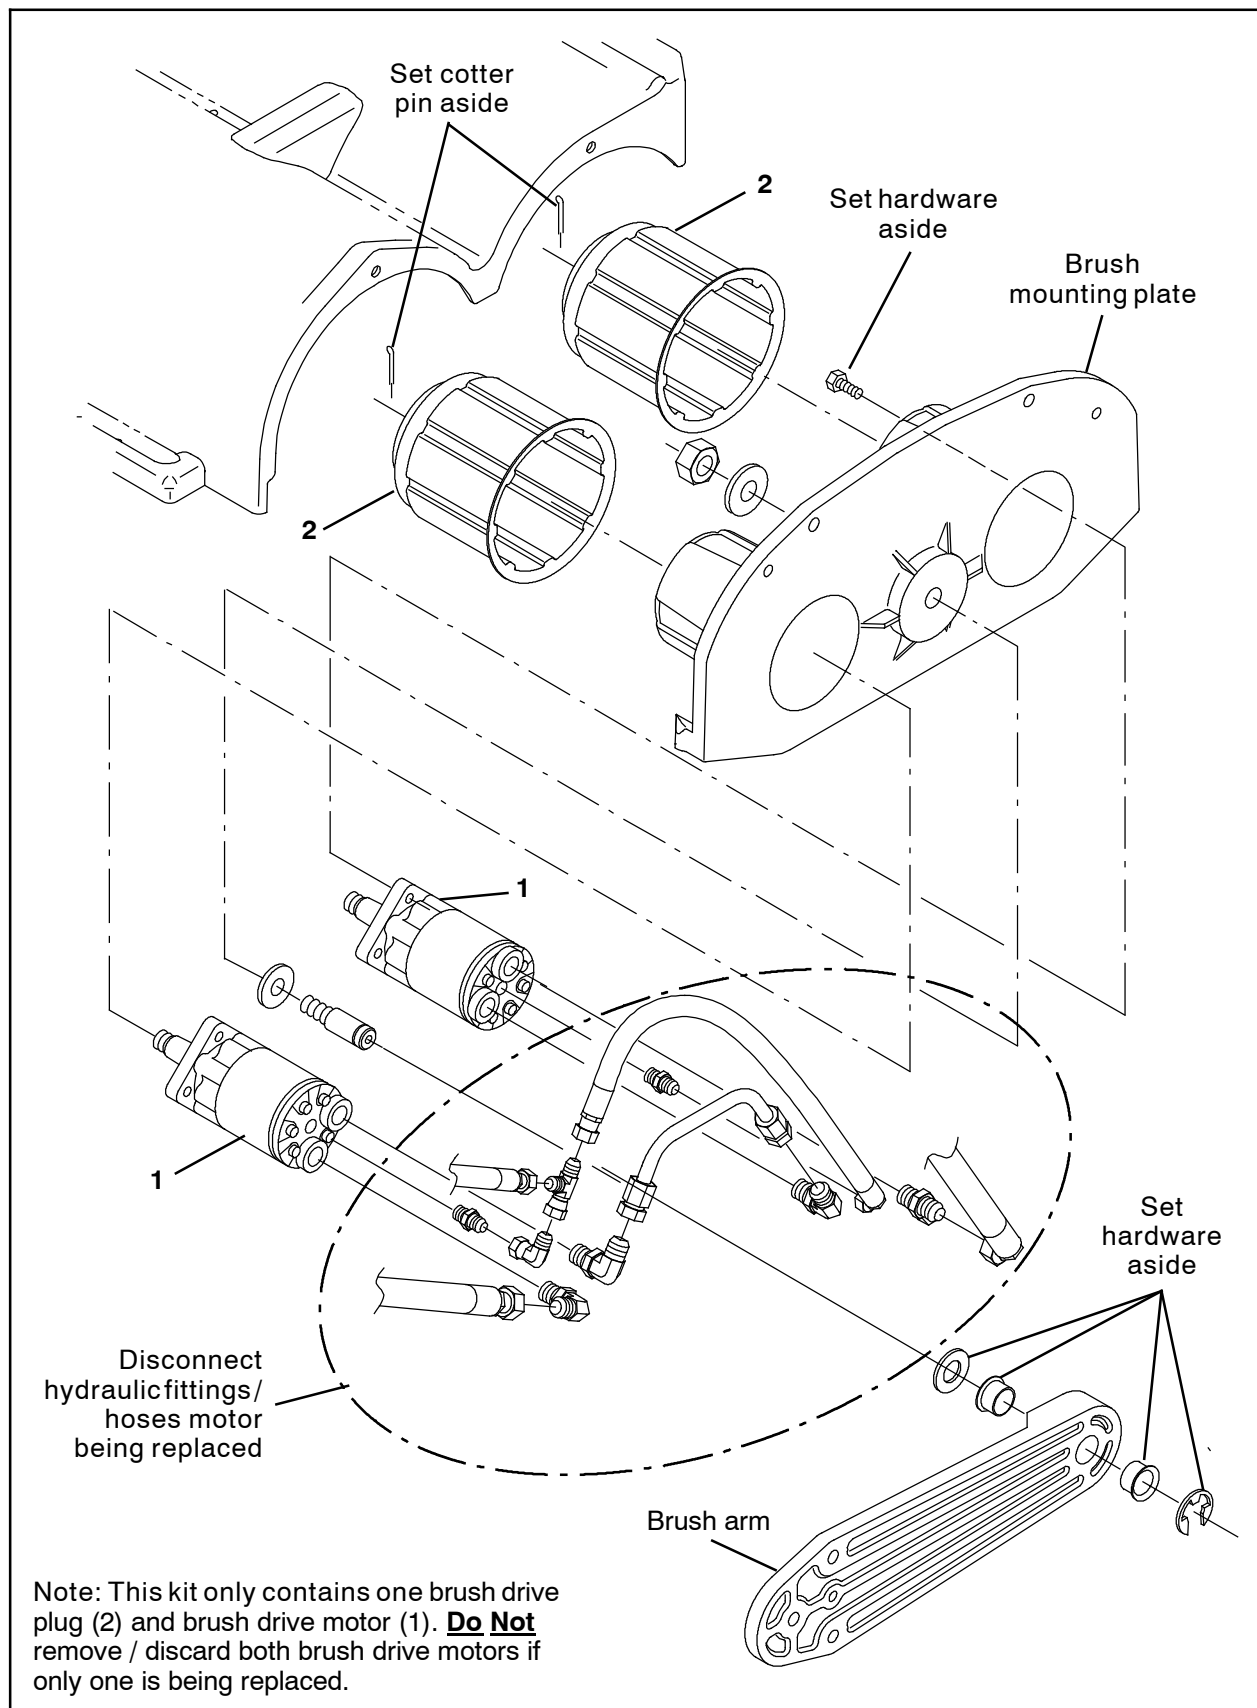

FIG. 5 - 7400
NOTE: Refer to Fig. 5 to install the brush drive motor (1) and brush drive plug (2) onto the 7400.
8. Install the new brush drive motor (1) onto the brush mounting plate.
9. Install the key into slot on brush drive motor (1) shaft.
10. Install the brush drive plug (2) onto the brush drive motor (1) and brush mounting plate.